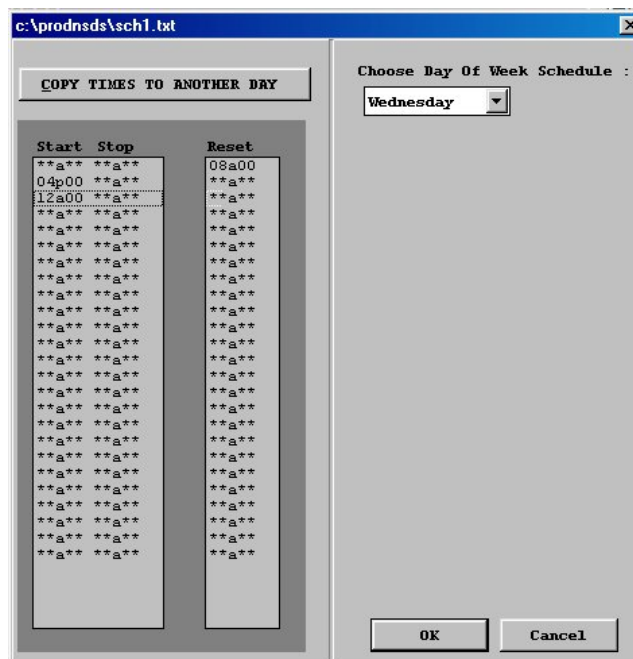

Figure 3.4 – Shift Start and Stop Times.
5. Make the changes to the files Start, Stop and Reset times in HHaMM (AM) or HHpMM (PM) format , e.g 08:00, (Fig 3.4).
In the example shown in Fig 3.4, there are three, 8 hourly shifts. The first shift starts at 8.00am, second shift starts at 4.00pm and the third shift starts at 12.00am.